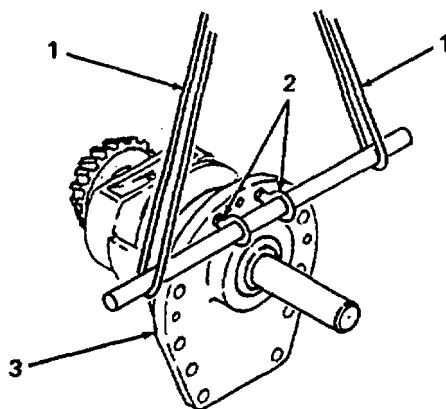

Figure 6-20. Hoisting High Speed Head Assembly.
(a) Attach lifting sling (1, figure 6-20) to eyebolts (2) installed in high speed head assembly (3) in place of top two mounting screws during removal.